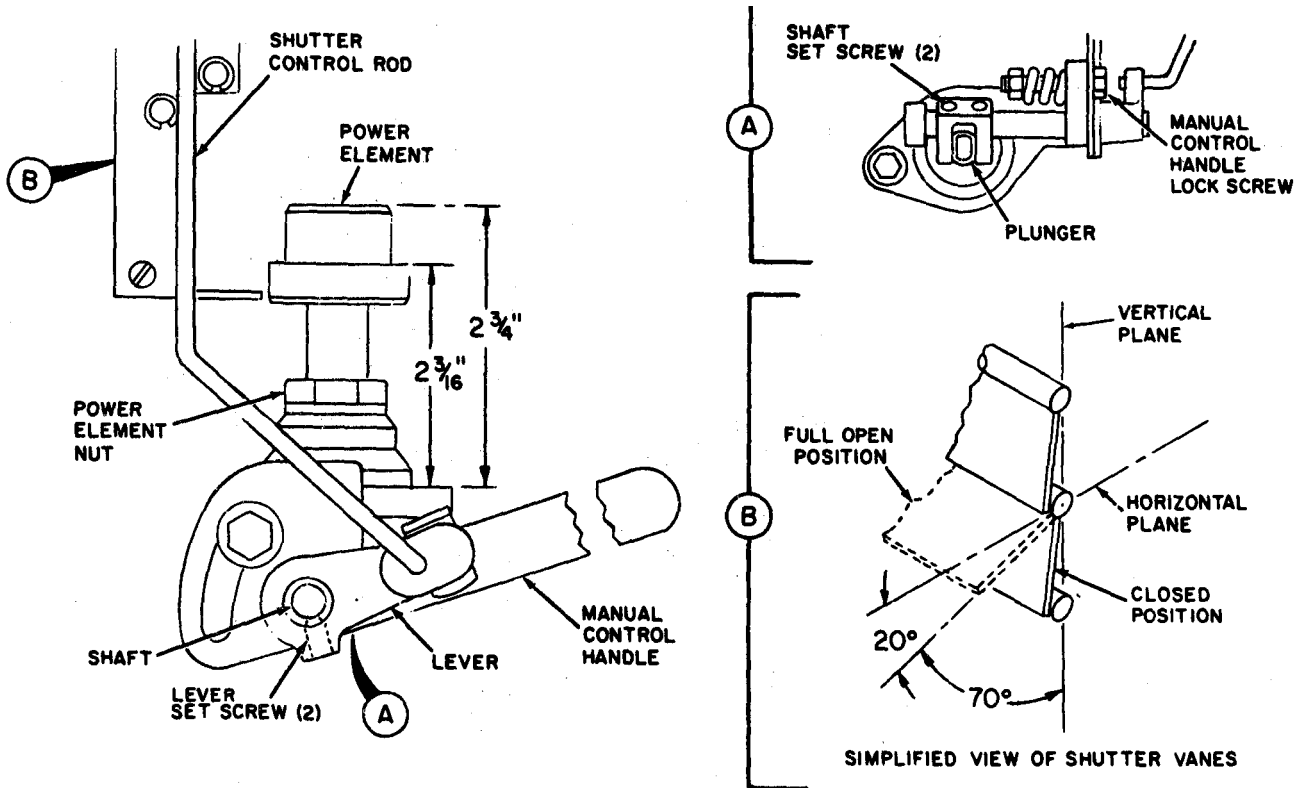

Figure 3-16. Shutter control assembly, adjustment
1. Install packing (72), nut (71), and power element (70) in housing (66) and adjust power element to a dimensional setting of 2-3/4 inches by screwing element in or out. Tighten nut (71) after adjustment. Refer to figure 3-16.
e. SHUTTER ADJUSTMENT. Refer to figure 3-16 and adjust shutter and control assembly as follows:
f. SHUTTER TEST. Refer to figure 3-16 and test shutter and control assembly as follows: